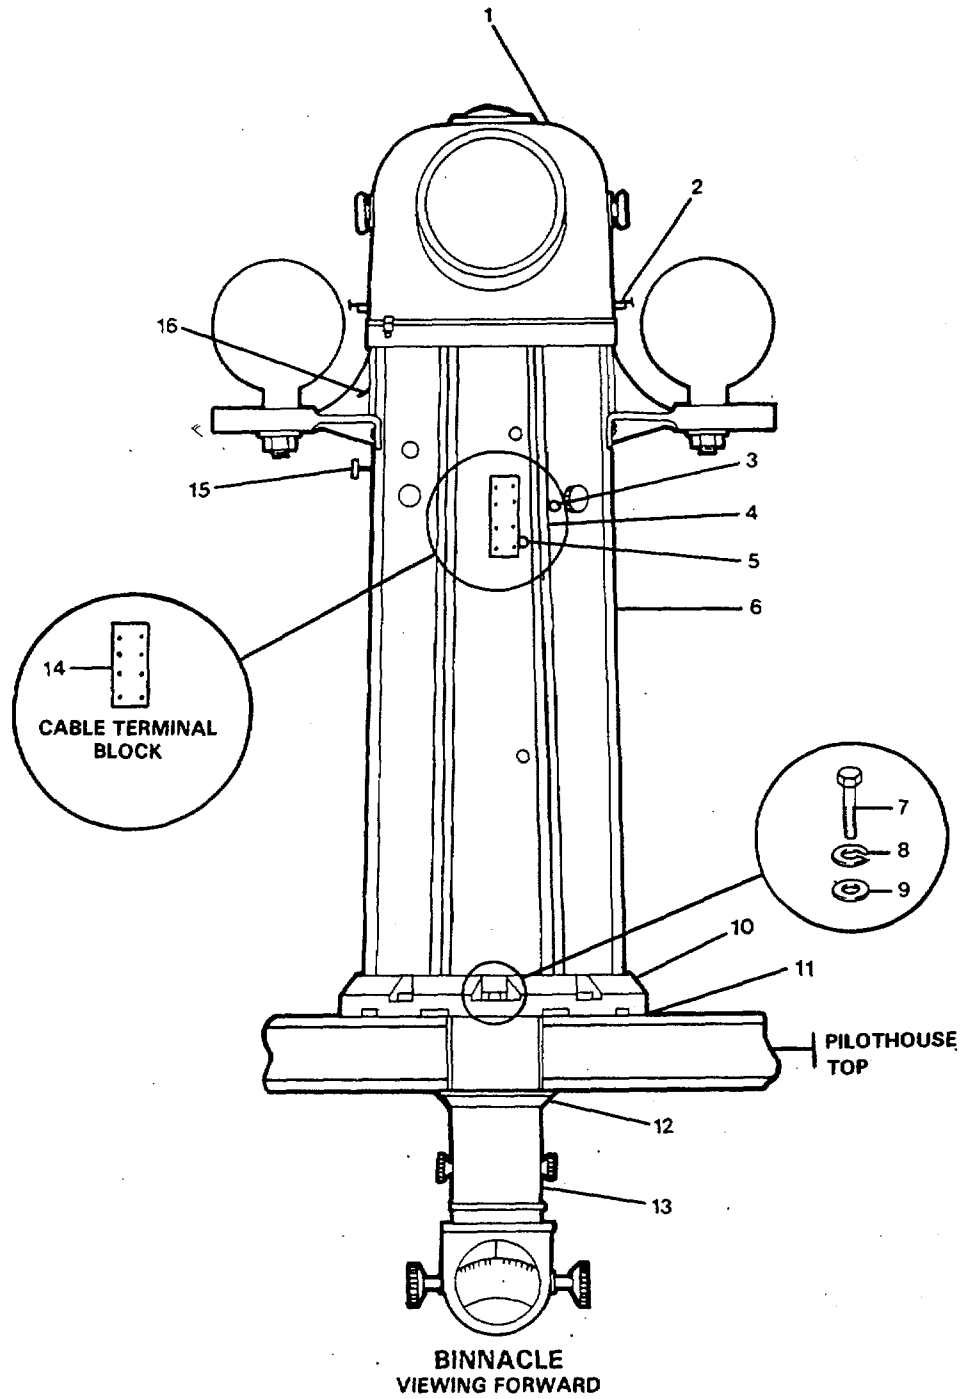

FIGURE 2-21. Binnacle Replacement.
2-27. Replace Binnacle. (FIGURE 2-21)
- a. On binnacle (FIGURE 2-21), set lighting toggle switch (6) to OFF.
- c. Unlock door lock (3).
- d. Open door (4) by pulling on knob (5).
- e. On inside of pedestal (6), tag and disconnect ship's electrical cable from terminal block (14).
- f. Remove any clamps on cable inside of pedestal (6).
- g. Close door (4) and secure door lock (3).
- h. Remove eight bolts (7), lockwashers (8), and flat washers (9) from bottom ring (10).
- i. In pilothouse, remove ceiling flange (12) and remove reflector tube assembly (13) by pulling down through pilot house overhead.
- b. Route electrical cable into pedestal (6) and lift binnacle and align bottom ring (10) mounting holes to deck mounting holes and place into mounting position.
- c. Secure binnacle with eight flat washers (9), lockwashers (8), and bolts (7) through bottom ring (10).
- d. In pilothouse, install reflector tube assembly (13) and secure with ceiling flange (12).
- e. On top of pilothouse, insert key into door locks (3) and unlock door (4).
- f. Open door (4) by pulling on knob (5).
- g. On inside of pedestal (6), locate ship's electrical cable and connect to terminal block (14). Remove tags.
- h. Dress cable inside of pedestal (6) and replace any cable clamps.
- i. Close door (4) and insert key into door locks (3) and secure.
- k. On binnacle (FIGURE 2-21), set lighting toggle switch (16) to ON. Verify hood lamp lights.
- 1. Vary setting of dimmer (rheostat) knob (15) and verify that lamp varies in illumination.